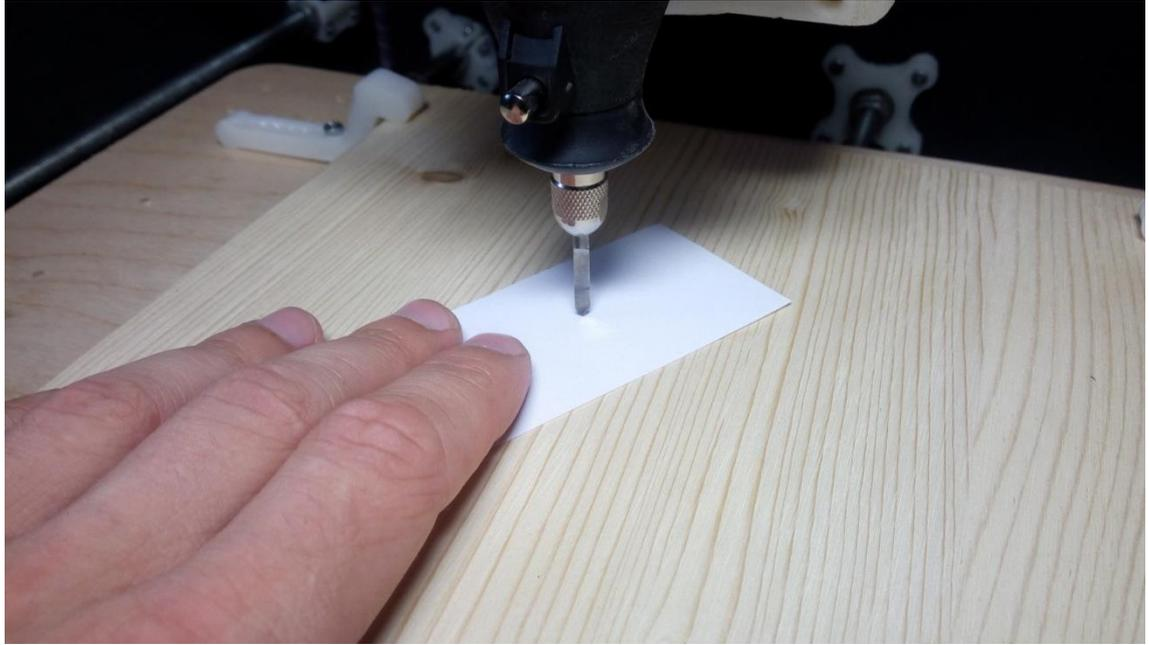

Figure 10 – Setting the zero position of the cutter
3. Gradually lower the cutter using the "Z-" button or the "PageDown" key to lower the cutter. The displacement step should be equal to 0.1mm. After each movement, check that the paper is moving freely. Repeat the operation until the cutter pinches the sheet of paper against the workpiece (see Fig. 10):